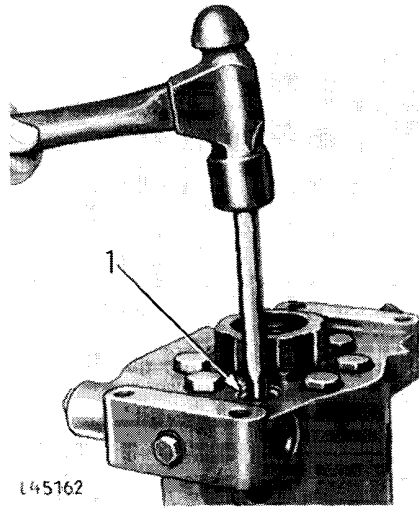

Fig. 5 — Installing Outlet Valve Seat
Check condition of valve seats 14 pressed into exhaust valve bores. If necessary, drive in new seats with shoulder facing driver (see fig. 5) so that the face of valve seat is 1.171 in. (29.75 mm) below housing bore recess (see fig. 5, item 1). When driving in valve seats, use a driver which exerts pressure only on valve seat shoulder.